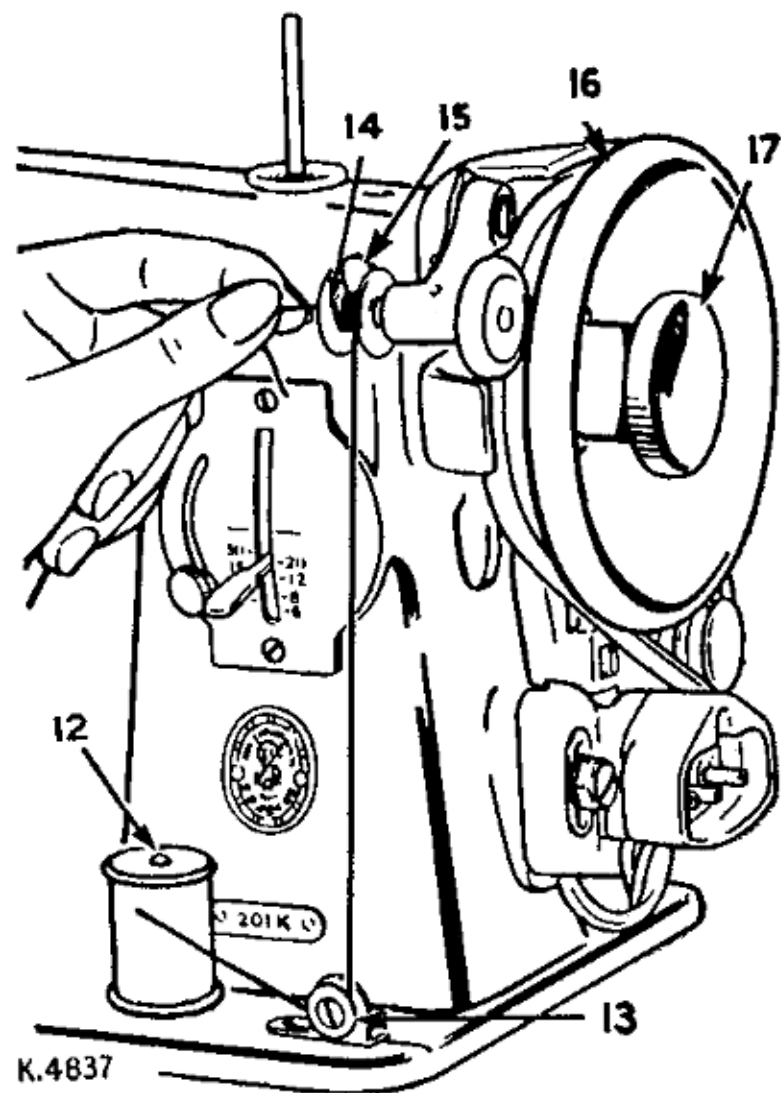
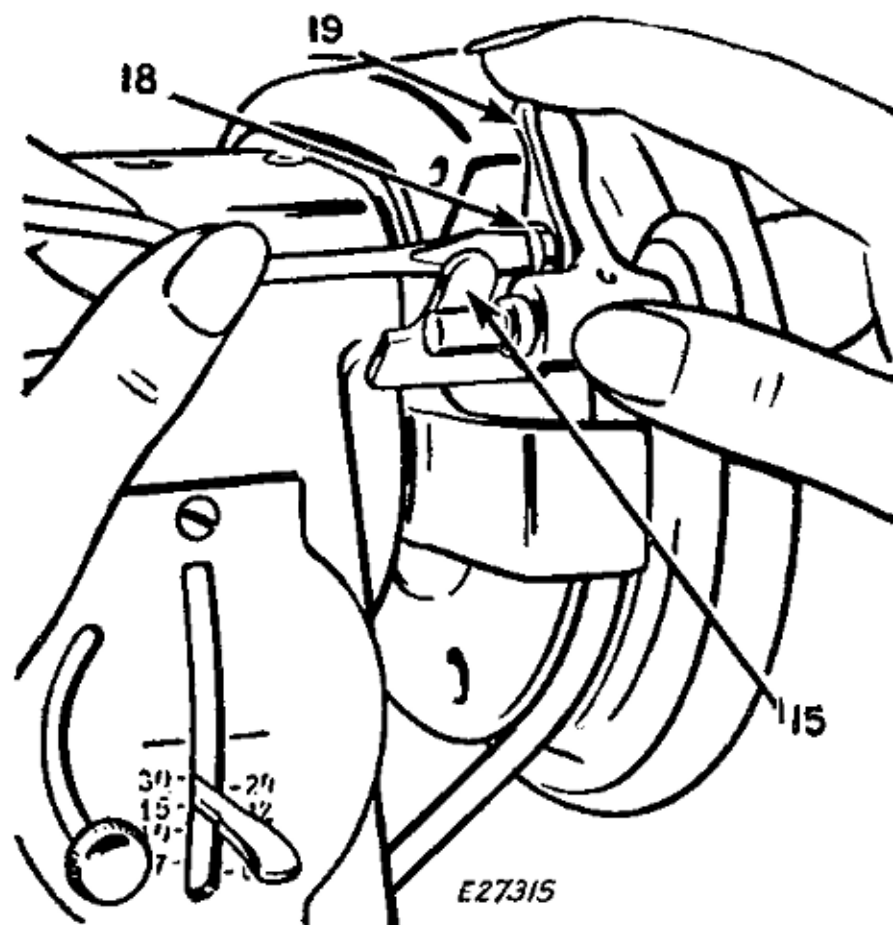

Fig. 12. Winding the Bobbin.
Fig. 13. Adjustment of Bobbin Winder.
Loosen the hand wheel by turning stop motion screw 17, Fig. 12, over toward you, place both feet upon the treadle and turn the hand wheel over toward you, at the same time allowing the feet to move freely and lightly with the motion of the treadle. Continue to do this until a regular and easy movement is acquired and you are able to work the treadle so that you can re-start the machine with the wheel turning toward you.
TO WIND BOBBIN. *See Fig. 12.*
2. Lock bobbin in place by pressing bobbin winder down until latch 15, Fig. 12 engages.
If pressure of bobbin winder pulley against hub of hand wheel is insufficient for winding the bobbin, press down bobbin winder until latch 15, Fig. 13 drops and holds it in position. Loosen adjusting screw 18, Fig. 13. With forefinger, push back upper end of slotted plate 19 as far as it will go, as shown in Fig. 13, and at the same time, press bobbin winder pulley against hub of hand wheel. Tighten adjusting screw 18. If thread does not wind evenly on bobbin, loosen screw which holds tension bracket 13, Fig. 12 in position. Move bracket to the left if bobbin winds high on right; move bracket to the right if bobbin winds high on left. When bracket is properly centred, thread will wind evenly across bobbin.